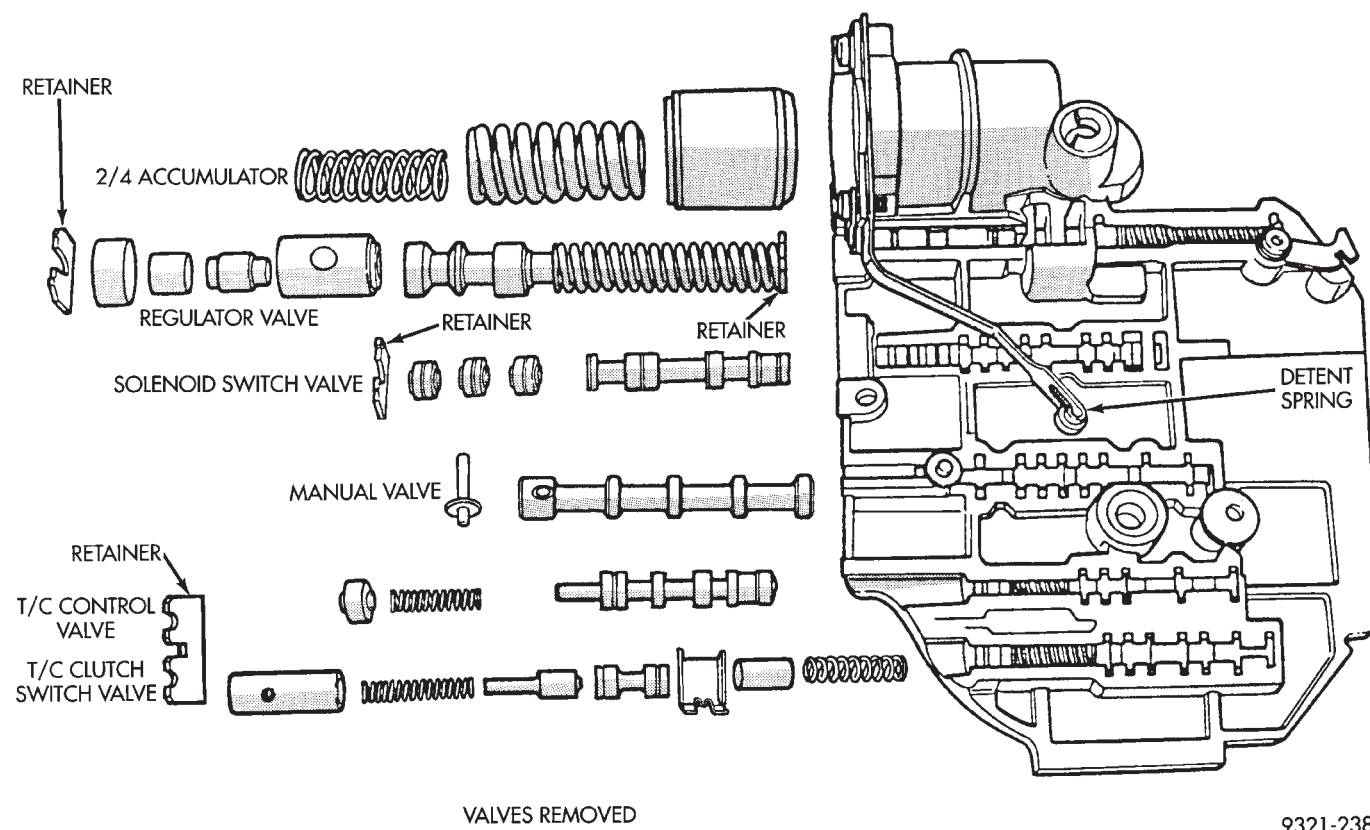

Fig. 66 Valve Body Components
(9) Tag all springs, as they are removed, for reassembly identification (Fig. 66).
(10) Cleanliness through entire disassembly and assembly of the valve body cannot be overemphasized. When disassembling, each part should be washed in a suitable solvent, then dried by compressed air. **Do not wipe parts with shop towels.** All mating surfaces in the valve body are accurately machined; therefore, careful handling of all parts must be exercised to avoid nicks or burrs.
(11) To reassemble, reverse recondition procedure.